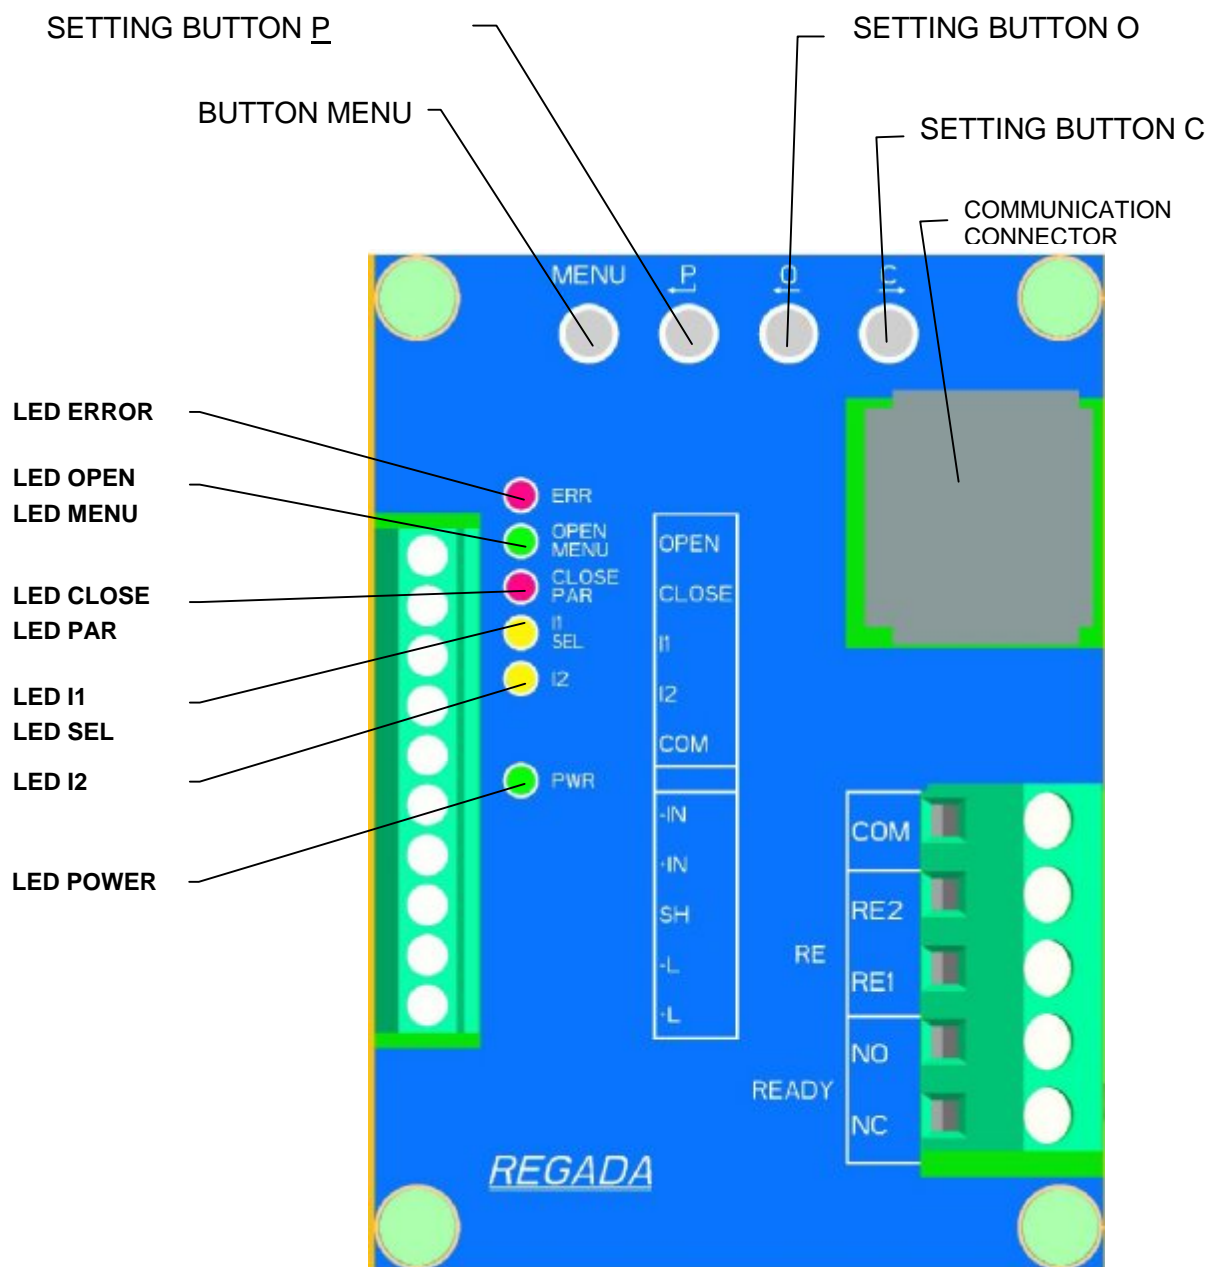

Fig. 6
Adjustment is made onto mechanical and electrical connected actuator. This chapter describes how to set up the EA to parameter values within a range applicable for the software. Location of adjustable parts of control board is on **Fig. 6**.
- by operating the control unit buttons (**see Fig. 6**);
- six signal lamps according (LED diode) to **Fig. 6**